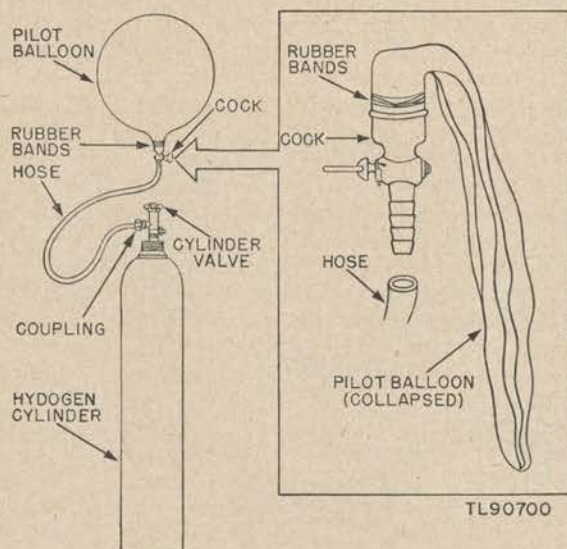

FIGURE 6. Inflating pilot balloon.
(1) *Inflating from cylinder filled with hydrogen* (fig. 6). (a) Open the valve on the hydrogen container, and allow a slow flow of